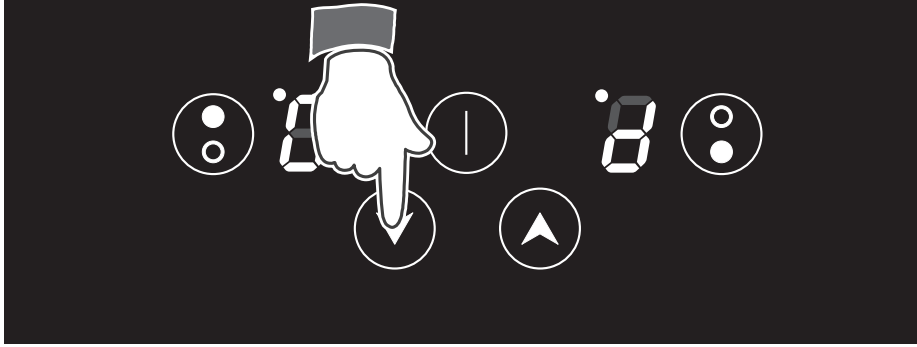

Fig. 2.5
- Set the power level "5" on the selected cooking zone, then just touch the key  until the relevant display shows "P" (fig. 2.5).